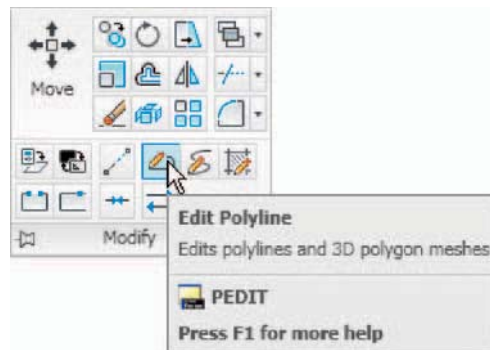

Fig. 3.42 Calling **Edit Polyline** from the **Home/Modify** panel
2. Call the **Edit Polyline** tool either from the **Home/Modify** panel (Fig. 3.42) or from the **Modify** drop-down menu, or by entering **pe** or **pedit** at the command line, which then shows: